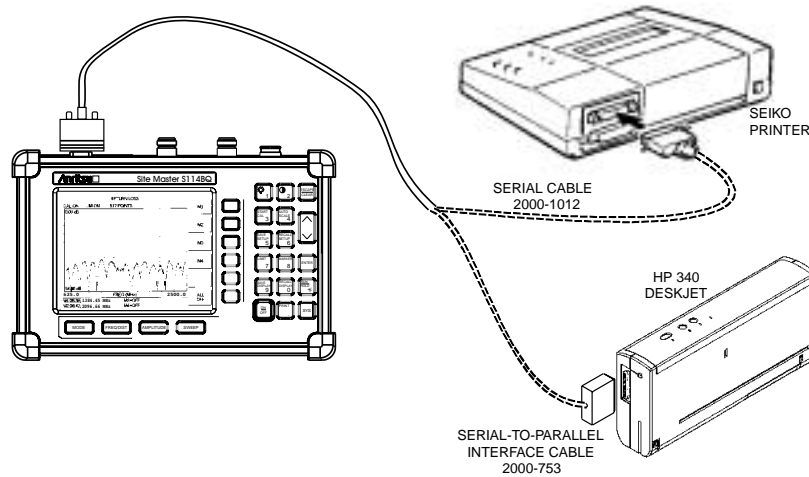

Figure 3-15. Site Master Printer Setup
Step 1. Connect the printer as shown in Figure 3-15.